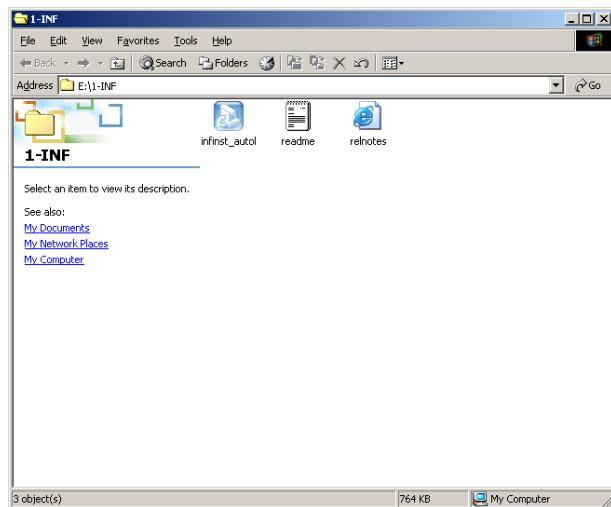

Figure 7-2: Chipset Driver Installation Program
Step 7: A new window opens (**Figure 7-2**).
Step 8: Double click the infinst_Autol icon in **Figure 7-2**.